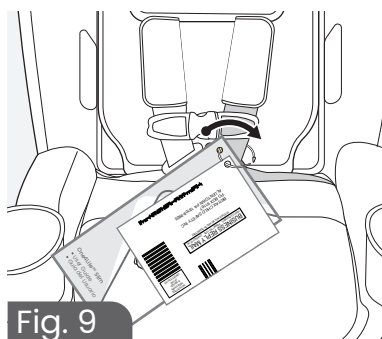

Fig. 9
3. **Attach** the lanyard around the child's left harness strap near the buckle tongue and secure (Fig 9).